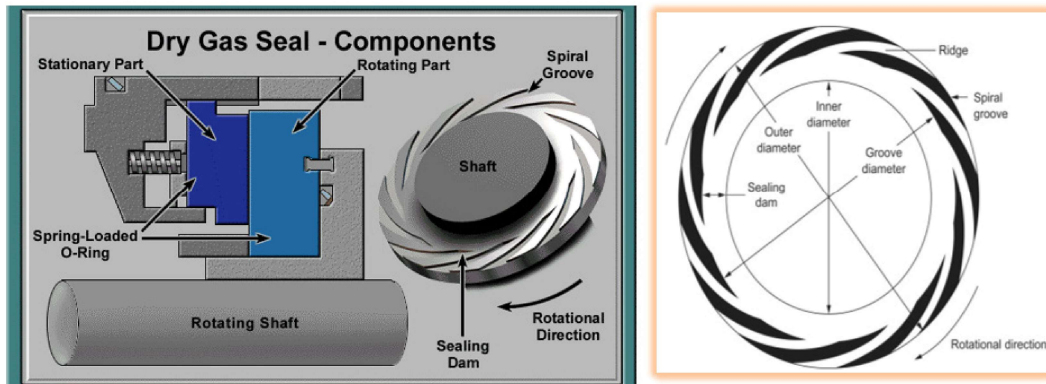

Figure.6. Dry gas seal components
- required to push the sealing faces apart. **Figure.6** shows the sealing face spiral groove arrangement.